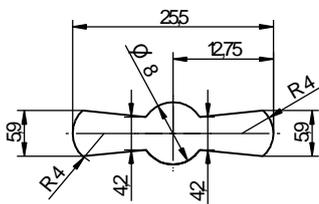

Figure 29: Key guide 86101
- For securing the required key cutout in the secure storage unit, it is recommended inserting the dormakaba key guide (see Figure 29) or the dormakaba key carrier guide (see Figure 30). In these cases, taking into consideration DIN 2768-mH, the key in the secure storage unit must be manufactured with the corresponding dimensions.